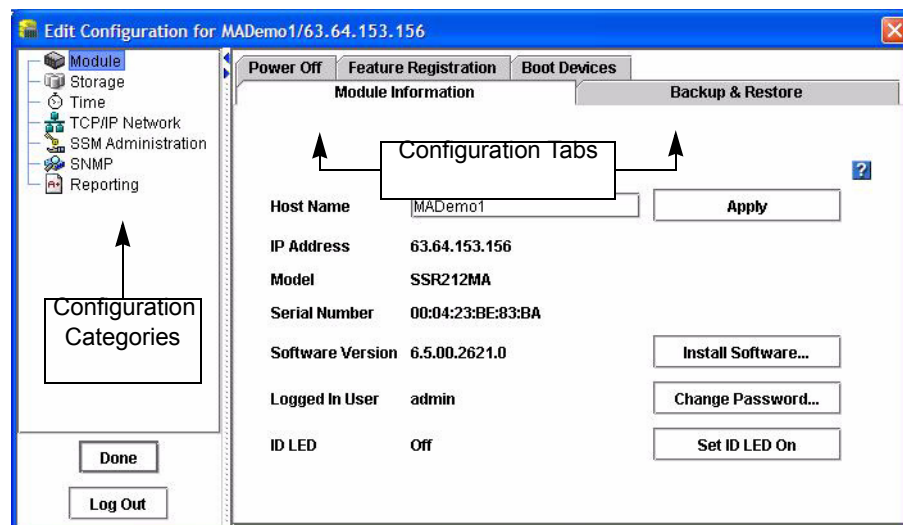

Figure 25. SSM Configuration Window
When you are successfully logged in, the SSM configuration window opens to the Module configuration category, shown in Figure 25.
1. When the SSM Configuration window is open, click Log Out, shown in Figure 25. The Network view opens and the SSM you logged out of no longer displays the logged in icon — the pink square.
To configure specific settings of an individual module, you use the SSM Configuration window, shown in Figure 25.